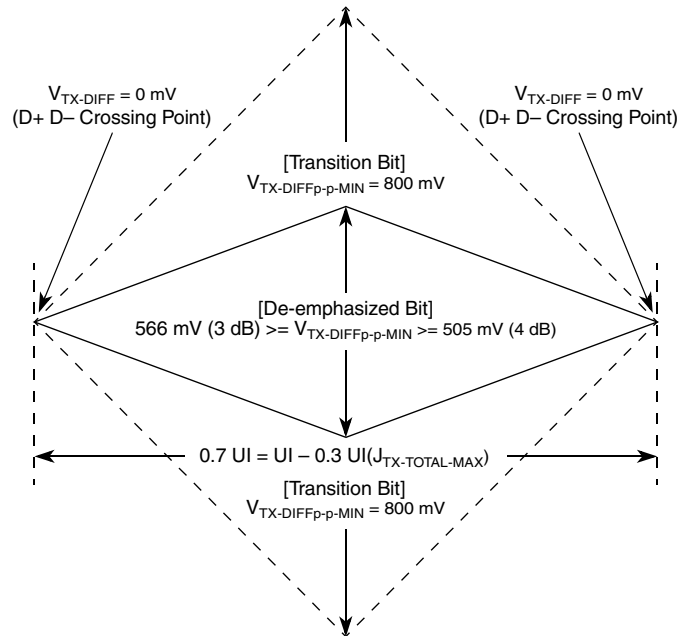
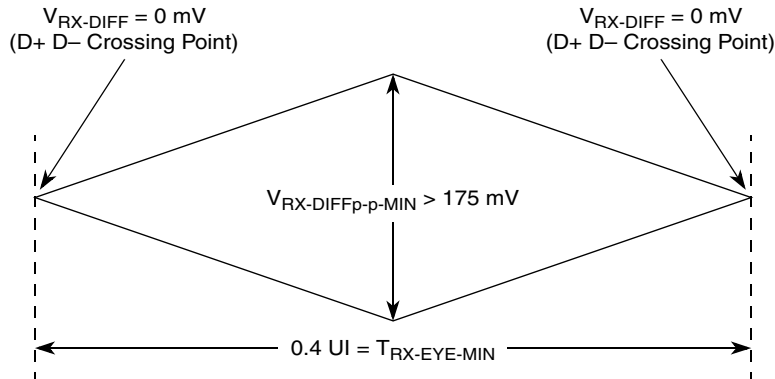
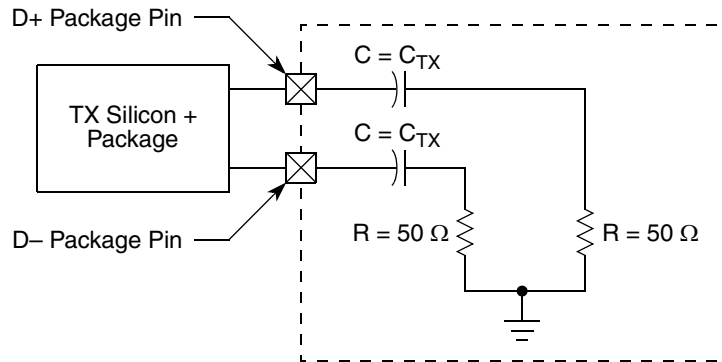

Figure 42. Minimum Transmitter Timing and Voltage Output Compliance Specifications
Figure 43. Minimum Receiver Eye Timing and Voltage Compliance Specification
Figure 44. Compliance Test/Measurement Load
2. Specified at the measurement point into a timing and voltage compliance test load as shown in Figure 44 and measured over any 250 consecutive Tx UIs. (Also refer to the transmitter compliance eye diagram shown in Figure 42.)
4. The transmitter input impedance will result in a differential return loss greater than or equal to 12 dB and a common mode return loss greater than or equal to 6 dB over a frequency range of 50 MT/s to 1.25 GHz. This input impedance requirement applies to all valid input levels. The reference impedance for return loss measurements is 50 Ω to ground for both the D+ and D– line (that is, as measured by a vector network analyzer with 50- Ω probes, see Figure 44). Note that the series capacitors, C_{TX} , is optional for the return loss measurement.
5. Measured between 20%–80% at transmitter package pins into a test load as shown in Figure 44 for both V_{TX-D+} and V_{TX-D-} .
The Tx eye diagram in Figure 42 is specified using the passive compliance/test measurement load (see Figure 44) in place of any real PCI Express interconnect + Rx component. There are two eye diagrams that must be met for the transmitter. Both diagrams must be aligned in time using the jitter median to locate the center of the eye diagram. The different eye diagrams differ in voltage depending on whether it is a transition bit or a de-emphasized bit. The exact reduced voltage level of the de-emphasized bit is always relative to the transition bit.
2. Specified at the measurement point and measured over any 250 consecutive UIs. The test load in Figure 44 should be used as the Rx device when taking measurements (also refer to the receiver compliance eye diagram shown in Figure 43). If the clocks to the Rx and Tx are not derived from the same reference clock, the Tx UI recovered from 3500 consecutive UI must be used as a reference for the eye diagram.
4. The receiver input impedance will result in a differential return loss greater than or equal to 10 dB with the D+ line biased to 300 mV and the D– line biased to –300 mV and a common mode return loss greater than or equal to 6 dB (no bias required) over a frequency range of 50 MT/s to 1.25 GHz. This input impedance requirement applies to all valid input levels. The reference impedance for return loss measurements for is 50 Ω to ground for both the D+ and D– line (that is, as measured by a vector network analyzer with 50- Ω probes, see Figure 44). Note that the series capacitors, C_{TX} , is optional for the return loss measurement.
The Rx eye diagram in Figure 43 is specified using the passive compliance/test measurement load (see Figure 44) in place of any real PCI Express Rx component. In general, the minimum receiver eye diagram measured with the compliance/test measurement load (see Figure 44) is larger than the minimum receiver eye diagram measured over a range of systems at the input receiver of any real PCI Express component. The degraded eye diagram at the input receiver is due to traces internal to the package as well as silicon parasitic characteristics that cause the real PCI Express component to vary in impedance from the
compliance/test measurement load. The input receiver eye diagram is implementation specific and is not specified. Rx component designer should provide additional margin to adequately compensate for the degraded minimum receiver eye diagram (shown in Figure 43) expected at the input receiver based on an adequate combination of system simulations and the return loss measured looking into the Rx package and silicon. The Rx eye diagram must be aligned in time using the jitter median to locate the center of the eye diagram.
The reference impedance for return loss measurements is 50 Ω to ground for both the D+ and D− line (that is, as measured by a Vector Network Analyzer with 50 Ω probes—see Figure 44). Note that the series capacitors, C_{PEACCTX}, are optional for the return loss measurement.
The AC timing and voltage parameters must be verified at the measurement point, as specified within 0.2 inches of the package pins, into a test/measurement load shown in Figure 44.